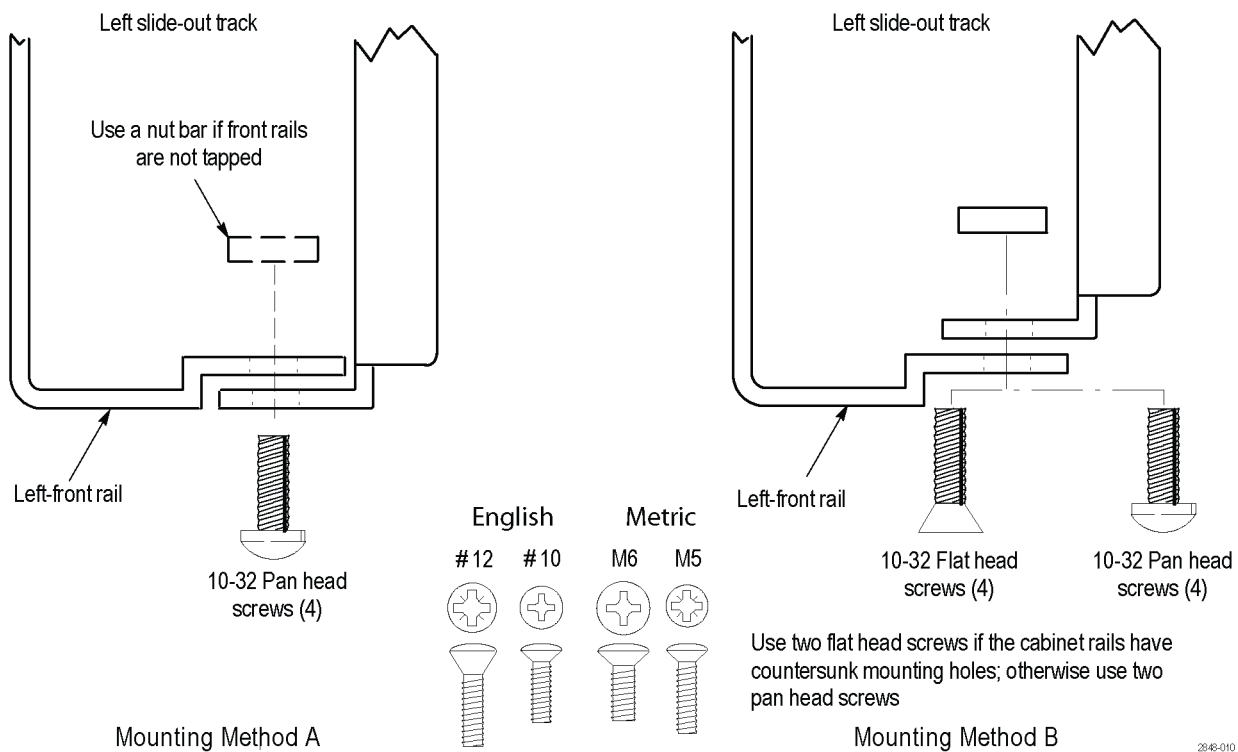

Figure 10: Installation of slide-out track assemblies in rack (top view)
- To mount the slide-out tracks with their front and rear flanges outside of the front and rear rails use Mounting Method A (See Figure 10.)
- To mount with front and rear flanges inside of rails use Mounting Method B outlined in the following figure. (See Figure 10.). This mounting method assumes untapped holes.